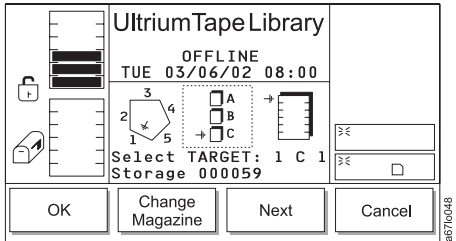

Figure 4-70. Change Magazine Dialog
- a. Press the button below the **Change Column** softkey until the arrow in the left icon points to the column that you want. Press the button below the **Next** softkey. The Change Magazine Dialog displays (see Figure 4-70 on page 4-42).